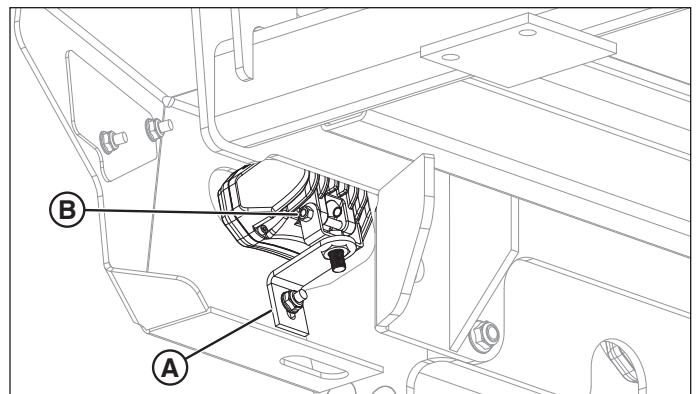

Figure 7. Adjusting the Headlight
1. To adjust the height of the headlight, loosen the mounting hardware for the head light mounting bracket (A, Figure 7) and slide the bracket up or down to the desired height, and then tighten the bracket mounting hardware.
2. To adjust the angle of the headlight, loosen the hardware (B) that connects the headlight to the headlight bracket, tilt the headlight to the desired angle, and then tighten the hardware.